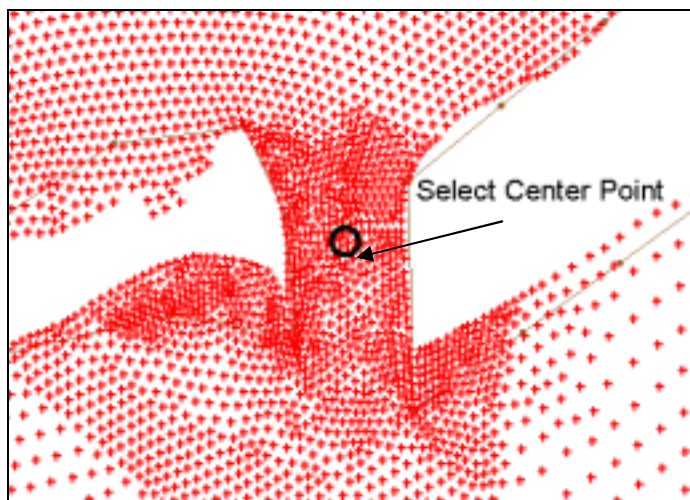

Figure 13-4 Choose a center point.
2. Click on one of scatter points (Figure 13-4) in the middle of the inlet using the *Select Scatterpoints*  tool. Make note of this point's *X* and *Y* coordinates in the *Edit Window* at the top of the screen.